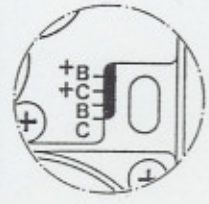

Fig. 13 Switch Block gasket position
If the integral cut off is required rotate the switch block gasket from position B or C to +B resp. +C (11). See figure 13.
All Dual Input Controllers have an additional gauge connection (13) to indicate either the compensation sensor input or the branch line pressure output depending on the position of the switch block gasket (Figure 13). The Dual Input Controllers are equipped with gasket in position «B».